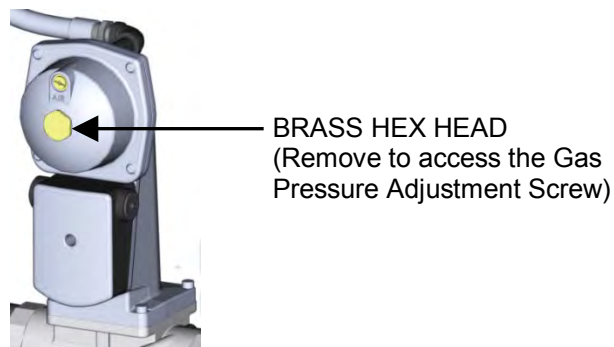

Figure 4-5: Gas Pressure Adjustment Screw Location
9. Next, verify that the gas pressure downstream of the SSOV is set to **1.6" \pm 0.2" W.C.** (for the BMK 3000DF) or **2.0" W.C. \pm 0.2" W.C.** (for the BMK 2500DF). If gas pressure adjustment is required, remove the brass hex nut on the SSOV actuator to access the gas pressure adjustment screw (Figure 4-5). Make gas pressure adjustments using a flat-tip screwdriver to obtain a gas pressure in the desired range.
14. If the oxygen level is not within the required tolerance, the gas pressure on the downstream side of the SSOV must be adjusted using the gas pressure adjustment screw on the SSOV (Figure 4-5). Slowly rotate the gas pressure adjustment (approximately 1/4-turn increments). Allow the combustion analyzer to stabilize following each adjustment. Clockwise rotation reduces the oxygen level, while counterclockwise rotation increases the oxygen level.
The unit contains three (3) types of over-temperature limit controls. These controls consist of a Manual Reset button, a rotary adjustable Temperature Limit switch and a digital Over-Temperature Alarm switch. These controls are mounted on a plate as shown in Figure 4-5. They can be accessed by opening the front panel door of the unit.
The digital Over-Temperature Alarm switch shown in Figures 4-5 and 4-6 is preset at the factory to 210°F (98.9°C) and should not be changed. If an over-temperature condition is detected, this switch automatically shuts down the boiler and sounds an audible alarm. If desired, the Over-Temperature Alarm can be checked or adjusted using the procedure in section 4.7.1.